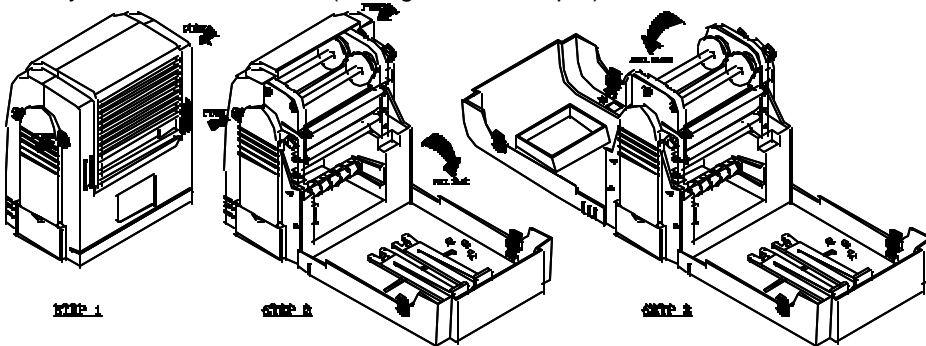

Fig. 2.2.1
2. Open the back cover by pressing the two locking tenons on the left and right sides (part 5). Lay down the back cover (see figure 2.2.1 step 2).
3. Open the front cover by pressing the two locking tenons on the left and right sides (part 4). Lay down the front cover (see figure 2.2.1 step 3).